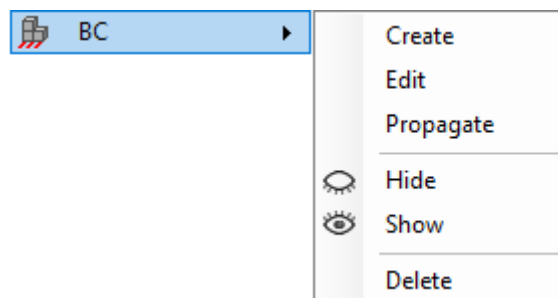

Figure 20: Boundary Conditions submenu
The Boundary Conditions (BC) submenu (Figure 20) contains the following options: